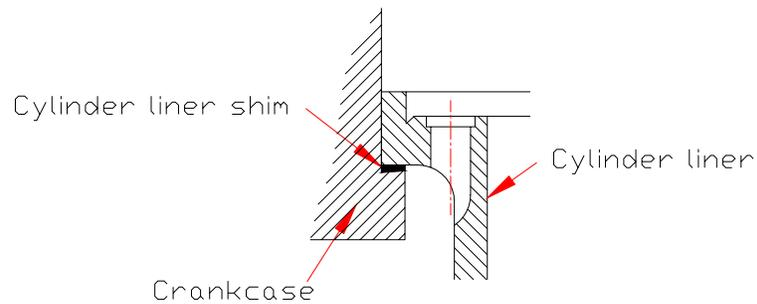

Fig. 15
- d) Apply steady pressure to the eyebolt tools until the liner descends onto the casing seat (Fig. 15).